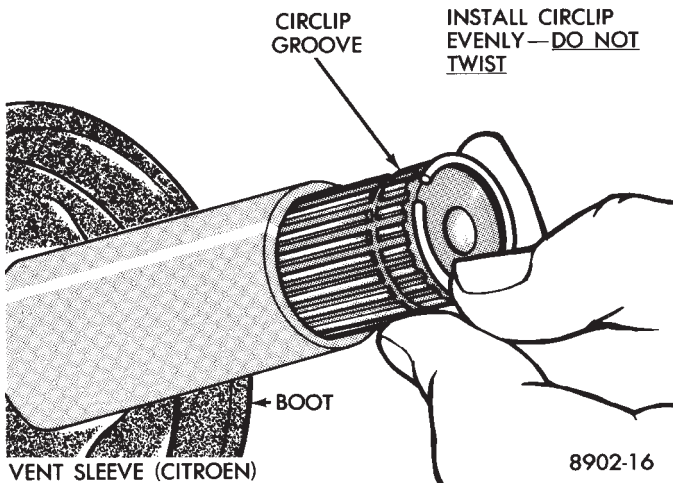

Fig. 8 Installing New Circlip
(10) On G.K.N. units insert the new circlip, provided with kit in shaft groove. **Do not over expand or twist** circlip during assembly (Fig. 8). The S.S.G. unit has a reusable circlip retainer that is an integral part of driver assembly.